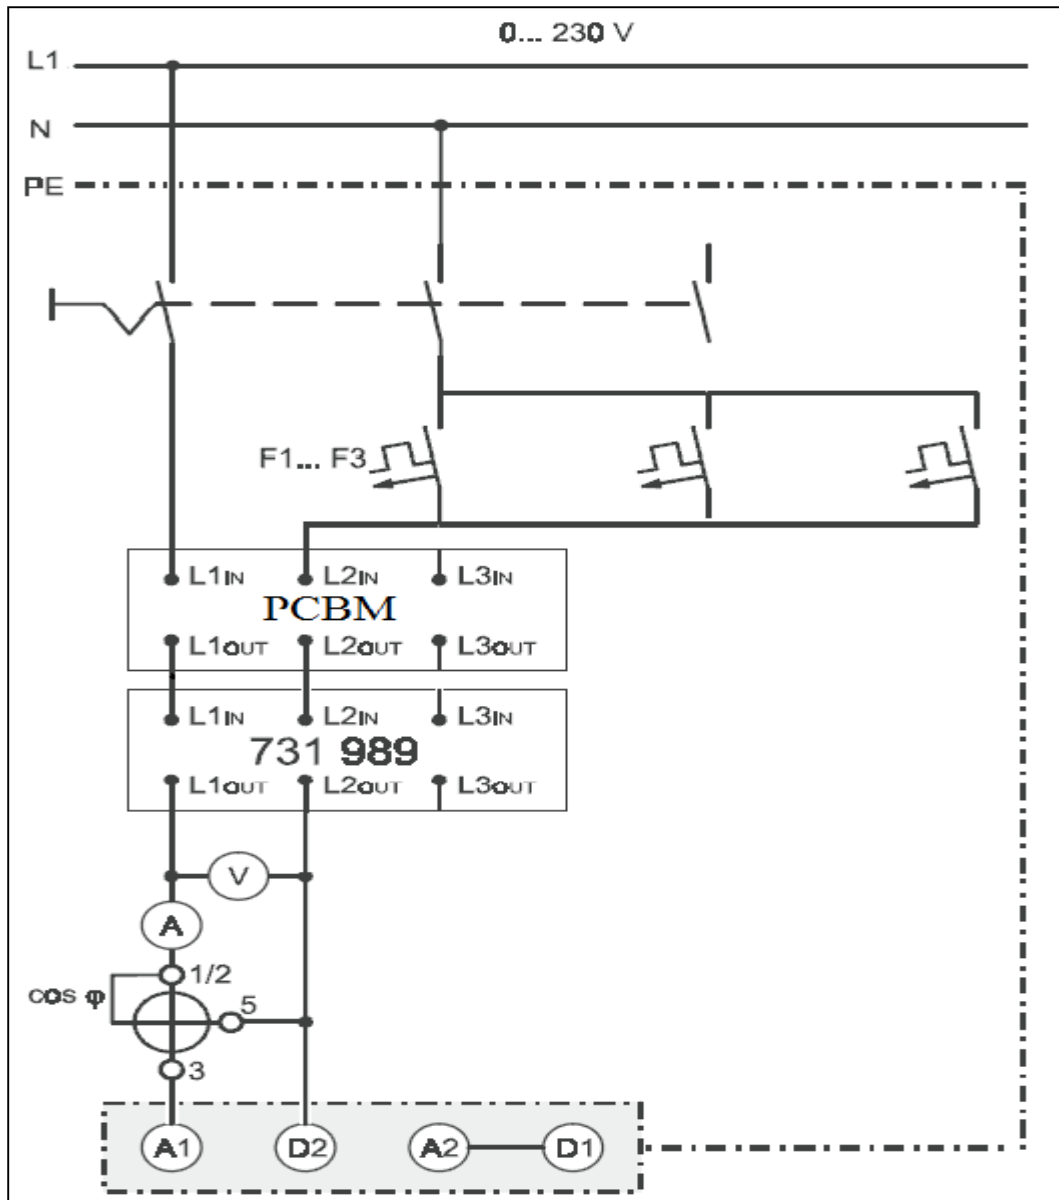

Figure 7.4: Circuit for determining the efficiency of a universal motor when it is operated on an AC power source
Set up the circuit as shown in Figure 7.4.
1. Undo the connect you made to reverse direction of rotation (to obtain the circuit in Figure 7.4).